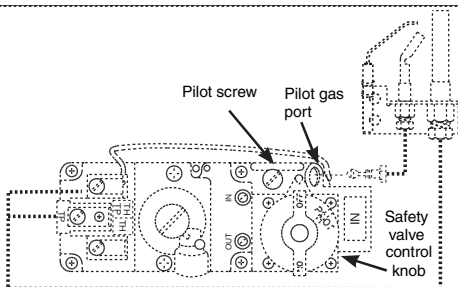

Fig. 11-1
To read the safety valve control knob (Fig. 11-1), read the marking nearest the teardrop-shaped metal pointer.
- b. If adjustment is necessary (Fig. 11-1), turn the gas adjustment screw counterclockwise ↺ to increase the pilot flame, or clockwise ↻ to decrease the pilot flame.